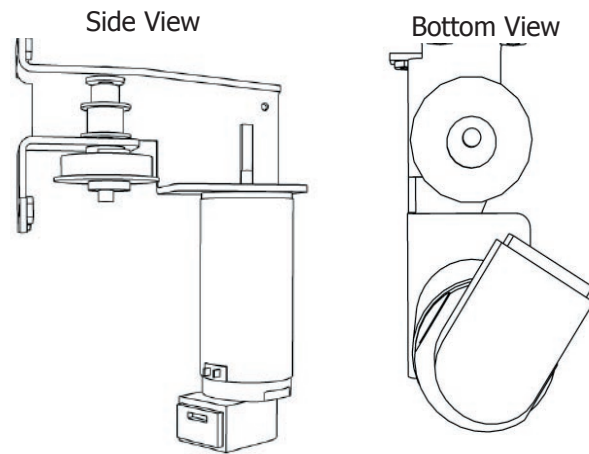

Fig. 7 - Proper motor position
- 2) Align the holes in the top of the motor with the three (3) holes on the body. The motor should be rotated so it looks like Fig. 7.